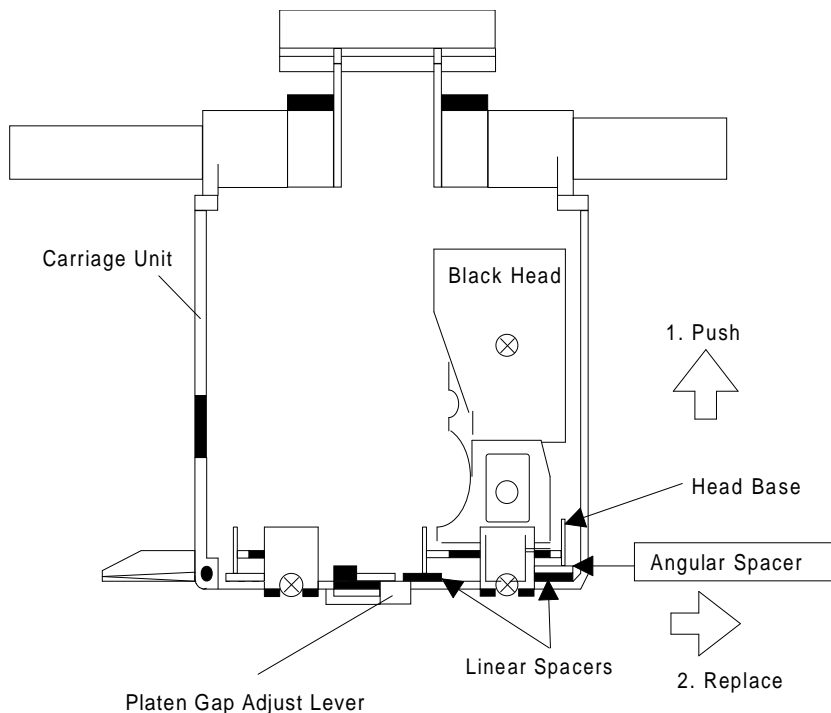

Figure 4-7. Angular Spacer Replacement Method
11. Replace the angular spacer for the black head with a new one. (Refer to Figure 4-7.)